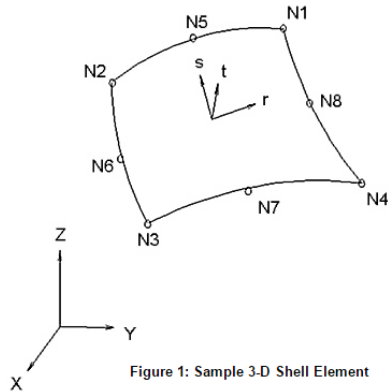

Figure 1: Sample 3-D Shell Element
**Shell Element** – Shell elements are 4- to 8-node isoparametric quadrilaterals or 3- to 6-node triangular elements in any 3-D orientation. The 4-node elements require a much finer mesh than the 8-node elements to give convergent displacements and stresses in models involving out-of-plane bending. Figure 1 shows some typical shell elements.